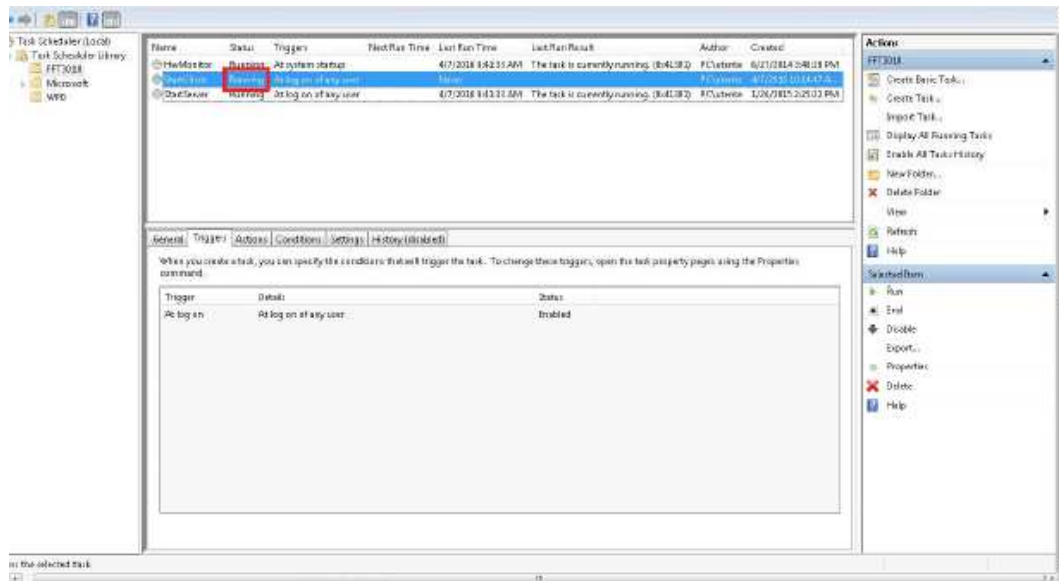

Fig. C.49: Status of Running for StartClient task
STEP 18 – Right now the *StartClient* task has the proper status of *Running* (Fig. C.49).